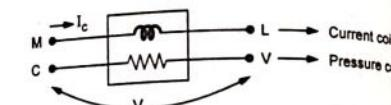

Fig. 4.13.1
• A wattmeter can be represented symbolically as shown in Fig. 4.13.1.